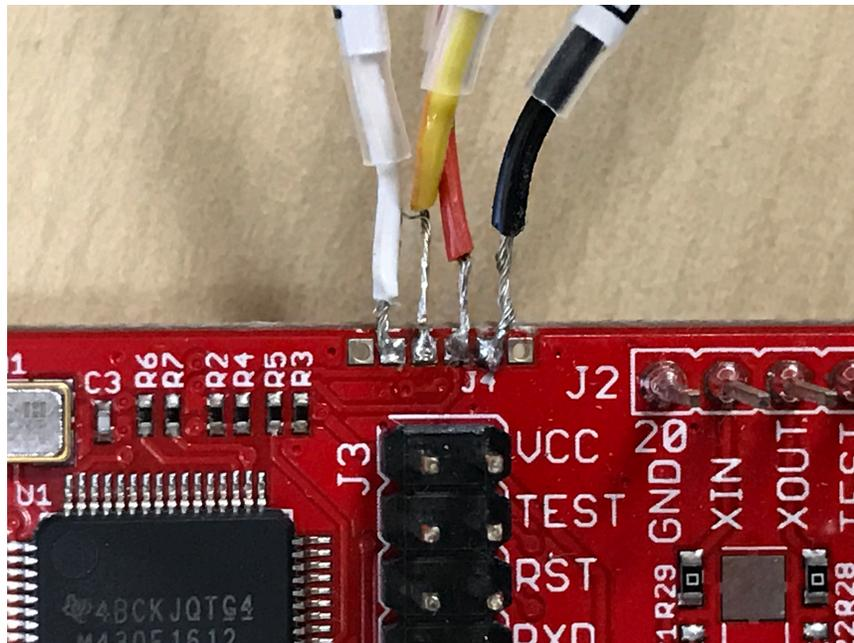

Figure 60. LaunchPad™ 4-Pin Programming Header with Soldered Wires
3. Acquire proper short wires to solder to J4 on the MSP430 LaunchPad, see Figure 60